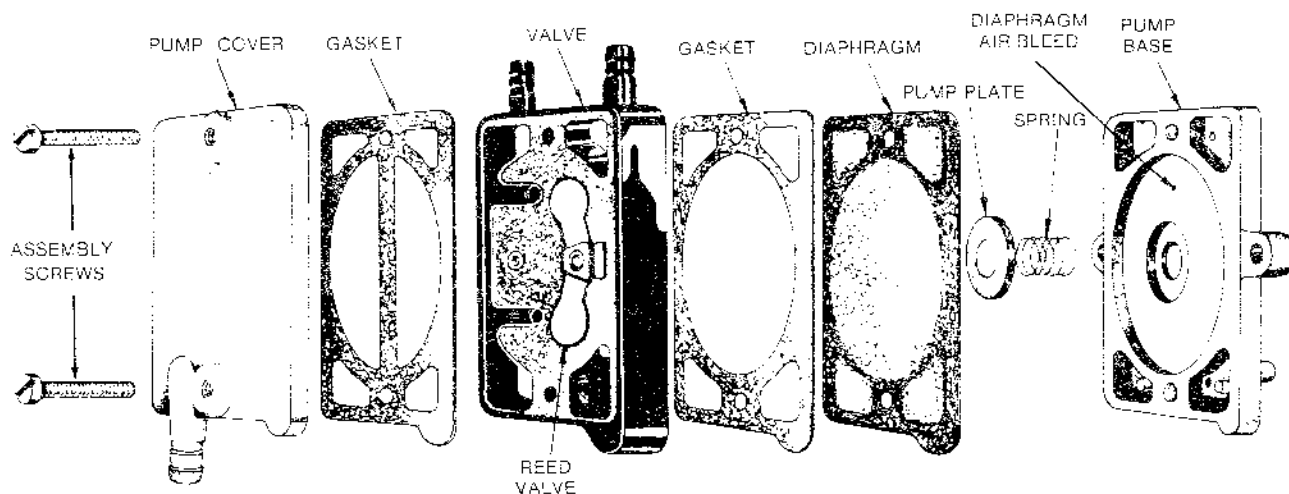

FIGURE 5. PULSE PUMP - EXPLODED VIEW
Pulsating-diaphragm fuel pumps use a combination of crankcase and spring pressure to work a diaphragm and pump the fuel. See Figure 5.
2. To insure correct alignment when reassembling, scribe a line across the outer pump parts on each end of the pump (Figure 5).
5. Check and unclog (if necessary) the small diaphragm air bleed hole located behind the pump diaphragm in the pump base (Figure 5).